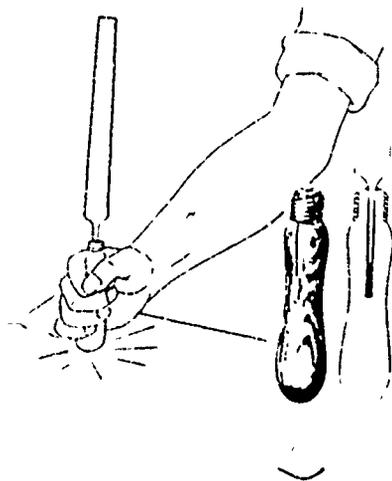

Fig. E-47. Fitting a file handle
- Do not use a handle that is the wrong size for the file. Tighten the file in the handle by holding it with the square end up and striking the butt end against the bench as shown in Fig. E-47. To remove the handle, hold the file blade with the handle up and with the ferrule against the edge of a board; then move the file up and down so that the ferrule will tap against the board and the handle will work loose.